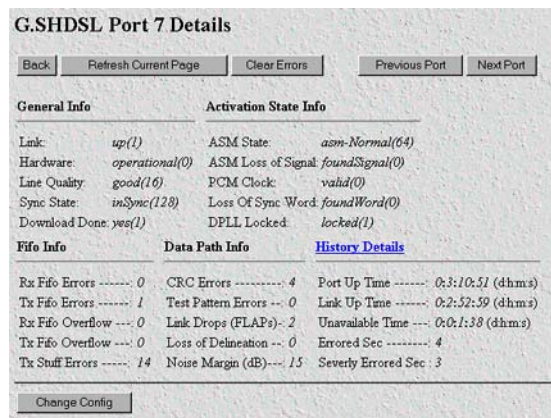

Figure 33. G.SHDSL Port 7 Details page
2. On the Configuration Information pane, under the column titled “Port #,” click on the number hyperlink for the port you wish to activate to display the G.SHDSL Port # Details page (see figure 33).